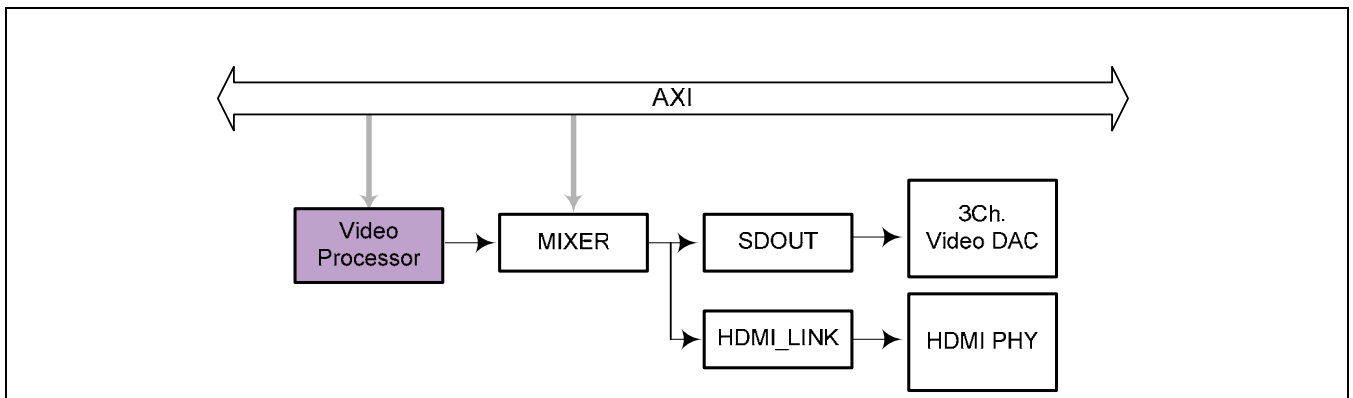

Figure 9.8-1 Video Data Path
Video processor (VP) is responsible for video scaling, de-interlacing, & video post processing of TV-out data path. VP reads reconstructed YCbCr 4:2:0 video sequences from DRAM, processes the sequence, and sends it to MIXER on-the-fly as shown in Figure 9.8-1.